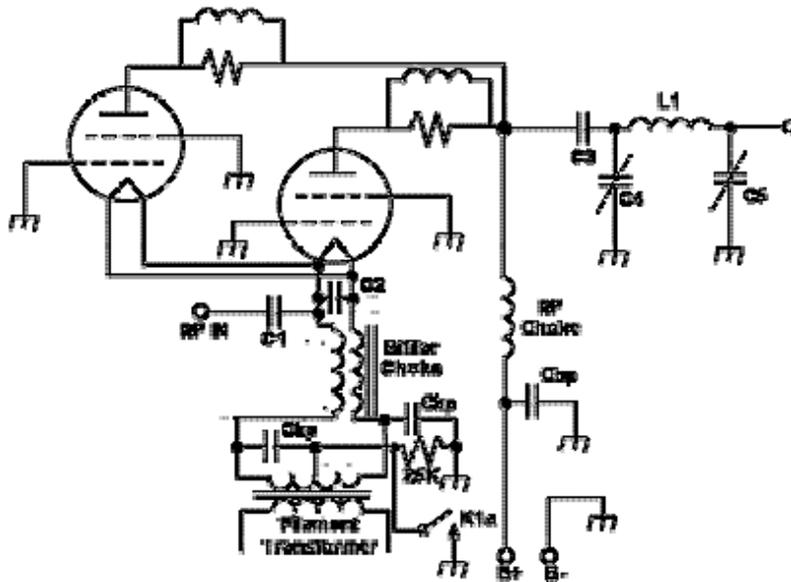

Figure-3: Two Electron Tubes in Parallel
6. When using one Electron Tube, the ***quiescent idling current*** can be reduced, permitting the Electron Tube(s) to run cooler, by connecting a 25K Ohm or 30K Ohm, 10 Watt resistor in line with the Filament transformer center tap and ground (as shown in **Figure-3 below**); ***when switched to transmit, an unused relay pair of K1a could then be engaged to short out the resistor, bringing the center tap directly to ground.***
In Figure-3 above:
6. When using two Electron Tubes, the **quiescent idling current** can be reduced, permitting the Electron Tube(s) to run cooler, by connecting a 25K Ohm or 30K Ohm, 10 Watt resistor in line with the Filament transformer center tap and ground (as shown in **Figure-3 below**); **when switched to transmit, an unused relay pair of K1a could then be engaged to short out the resistor, bringing the center tap directly to ground.**